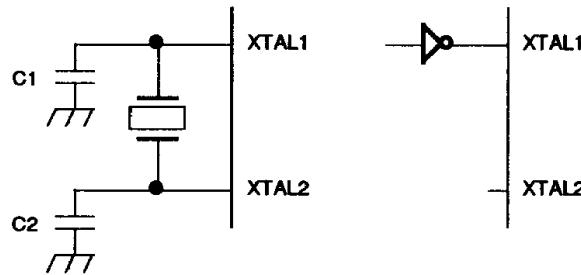

Figure 10a. Crystal Oscillator Configuration
The Z8604 on-chip oscillator has a high-gain, parallel-resonant amplifier for connection to a crystal, RC, ceramic resonator, or any suitable external clock source (XTAL1 = Input, XTAL2 = Output). The crystal should be AT cut, 1 to 8 MHz max, with a series resistance (RS) less than or equal to 100 Ohms (Figure 10a).